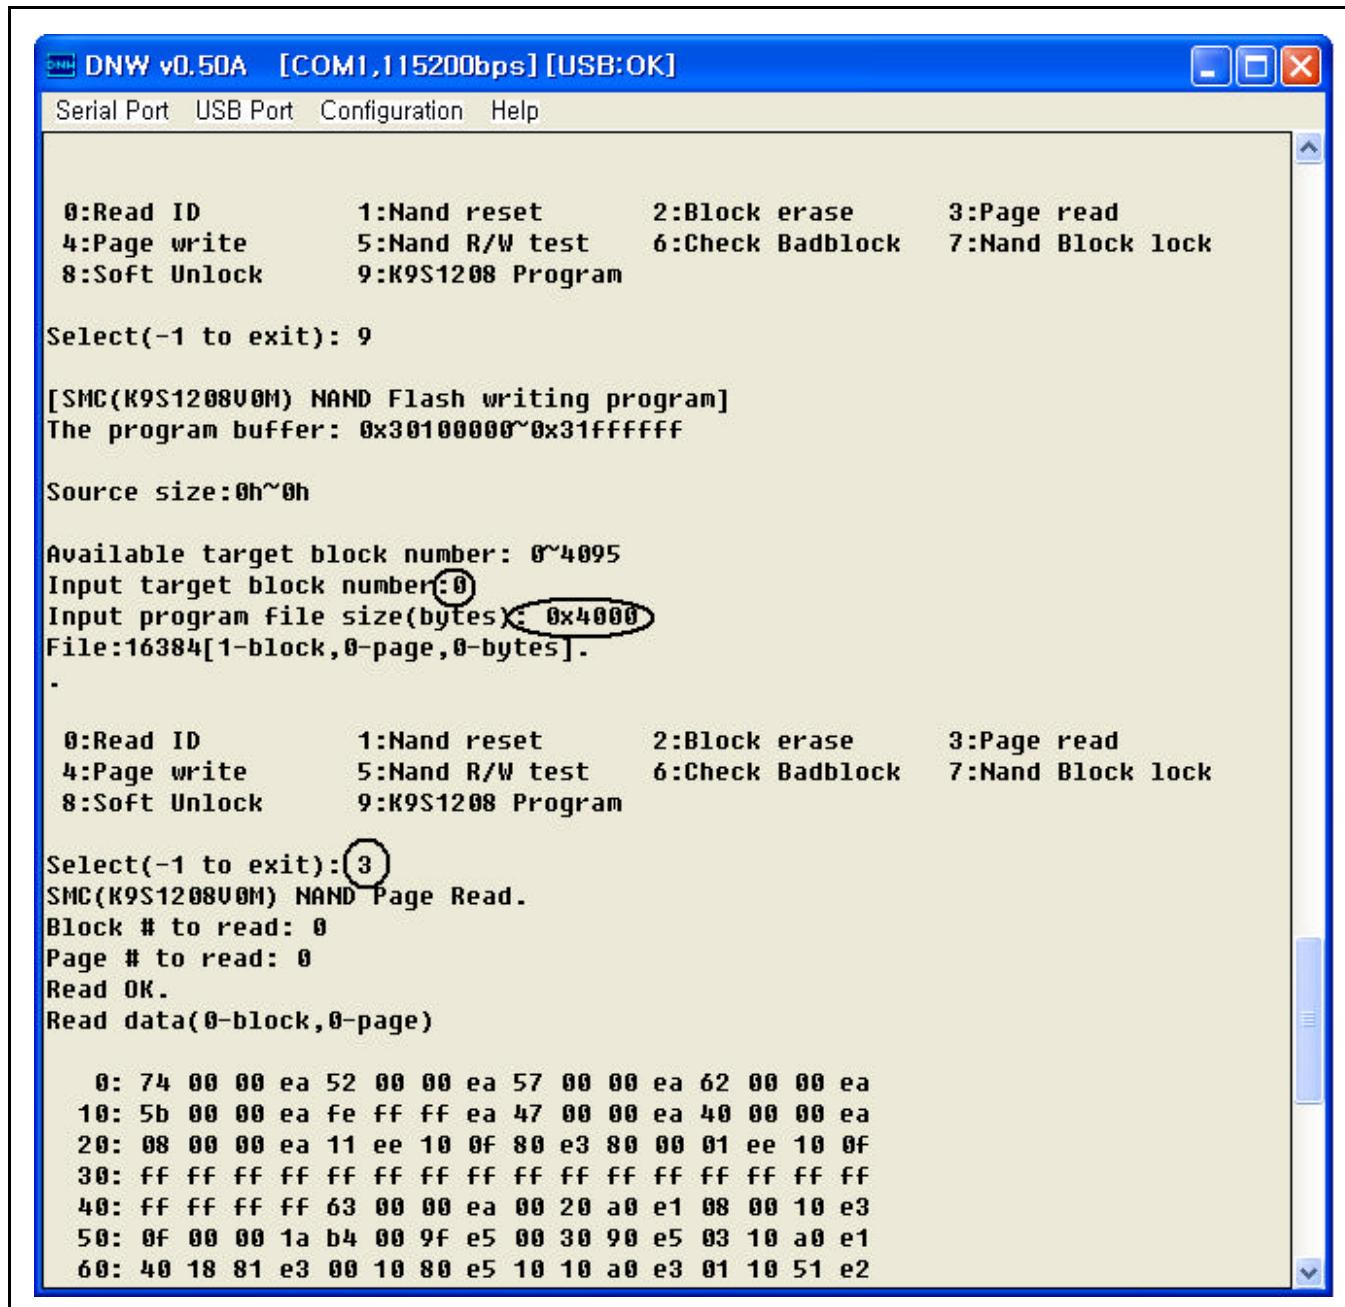

Figure 3-11. DNW Window (NAND Flash Write Program)
13. Write the target block number that is the start block to write and press enter key on the DNW window (See Figure 3-11).
14. Write total byte size of the target image, it should be aligned 0x4000 (one block size) bytes (See Figure 3-11).
15. To check the contents of NAND flash, select Page read function (See Figure 3-11).